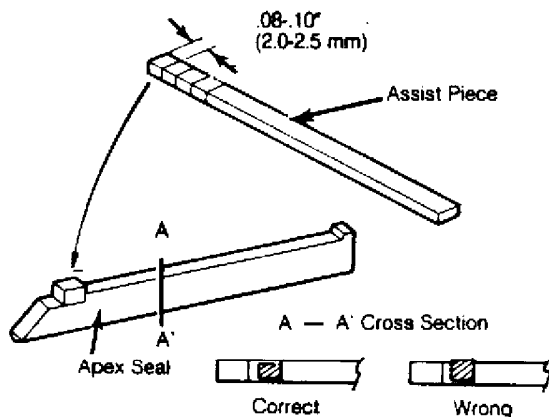

Fig. 20: Installing Assist Piece on Apex Seal
1) Before installing apex seal, cut the assist piece to a length of .08-.011" (2.0-2.8 mm). Peel off paper and install assist piece of apex seal. See Fig. 20.